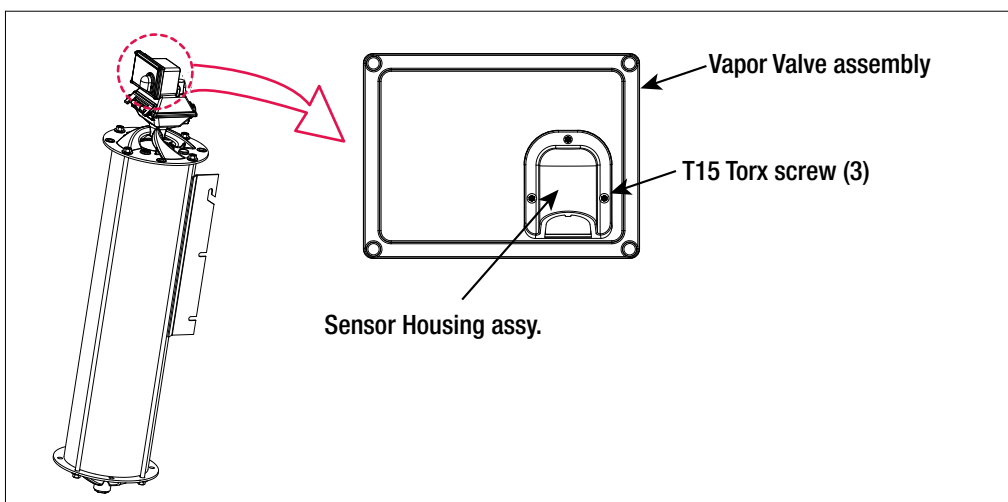

Figure 14. Removing Sensor Housing Assembly
1. Remove the three T15 Torx screws holding the sensor housing assembly to the vapor valve assembly (see Figure 14).